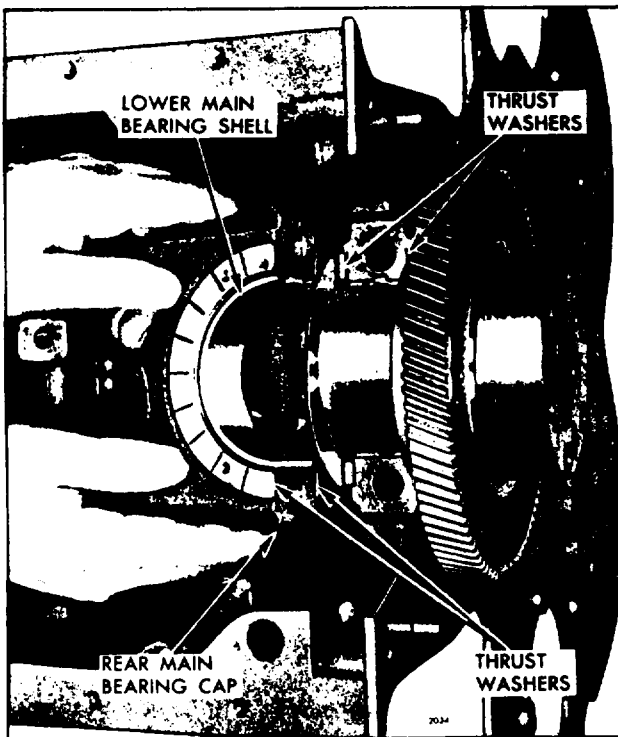

Fig. 8 · Crankshaft Thrust Washer Mounting
2. Assemble the crankshaft thrust washers before installing the main bearing cap. Clean both halves of the thrust washer carefully and remove any burrs from the washer seats -the slightest particle of dirt may decrease the clearance between the washers and the crankshaft beyond limits. Slide the upper halves of the thrust washers into place in their grooves (Fig.8), then assemble the lower halves over the dowel pins in the bearing cap.